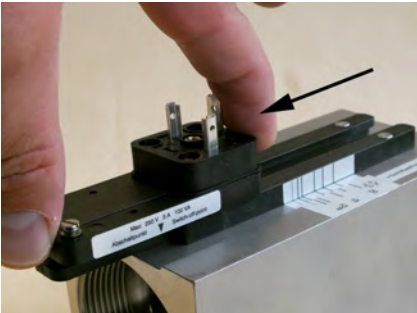

Fig. 48: Remove the switch contact from guide rails
4. ➤ Slide the switch contact from the guide rails (Fig. 48) in the direction of the arrow